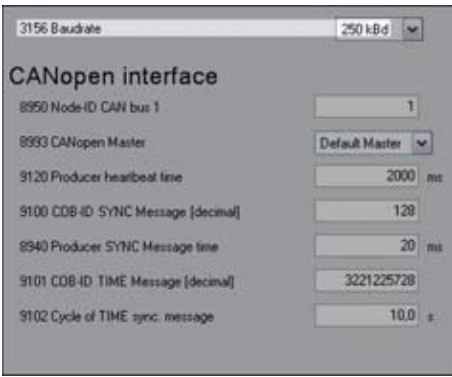

Fig. 186: Baud rate configuration (example ToolKit)
1. In ToolKit configure the baud rate as shown in (Fig. 186).